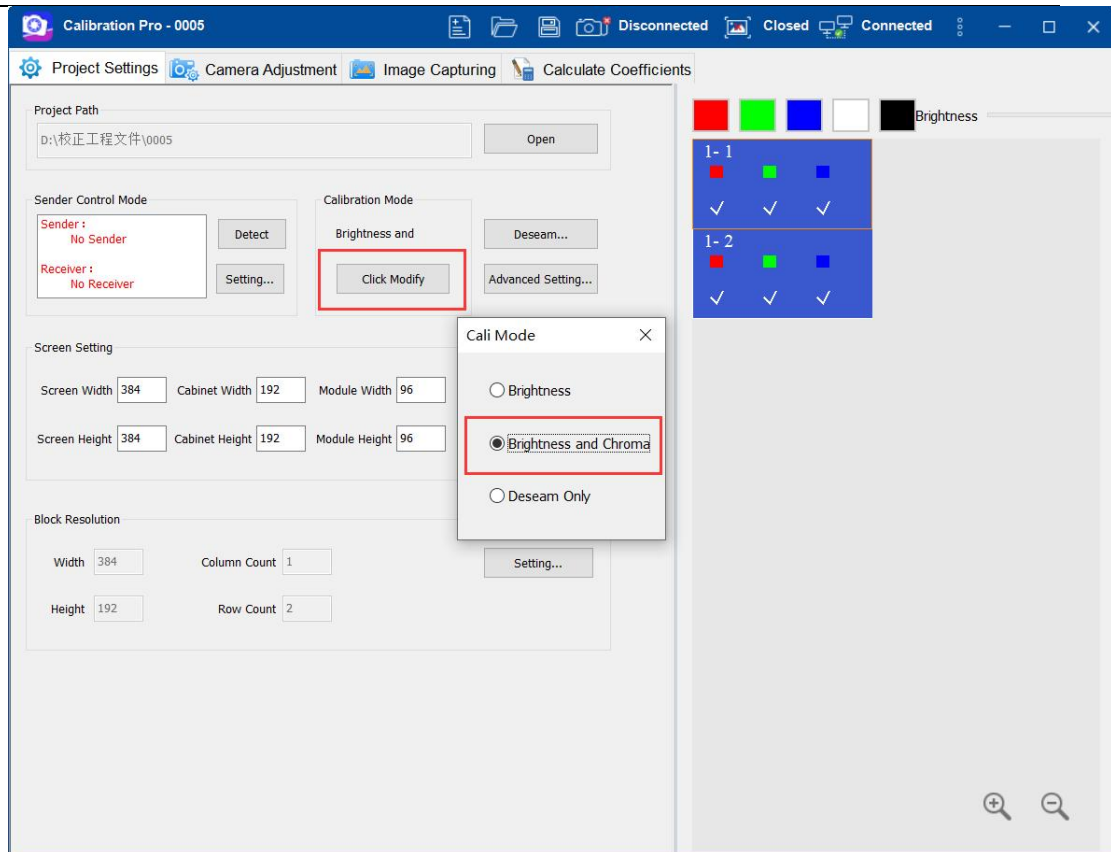

Fig.7-1 Select “Brightness and Chroma” Calibration
Effect setting is used for adjusting calibration effect and fixing screen flaws after calibration. The effect options will vary with your selections (**COB Module**) in the **Whole Screen project wizard-4** dialog cabinet. There is an effect description appearing below every option. If you select the **Same Batch** check cabinet and clear the **COB Module** check cabinet, the advanced setting dialog cabinet is as shown in Fig.7-1.
1. Select [**Brightness and Chroma**] as calibration type in [**coefficient**] page. As shown in Fig.7-1.